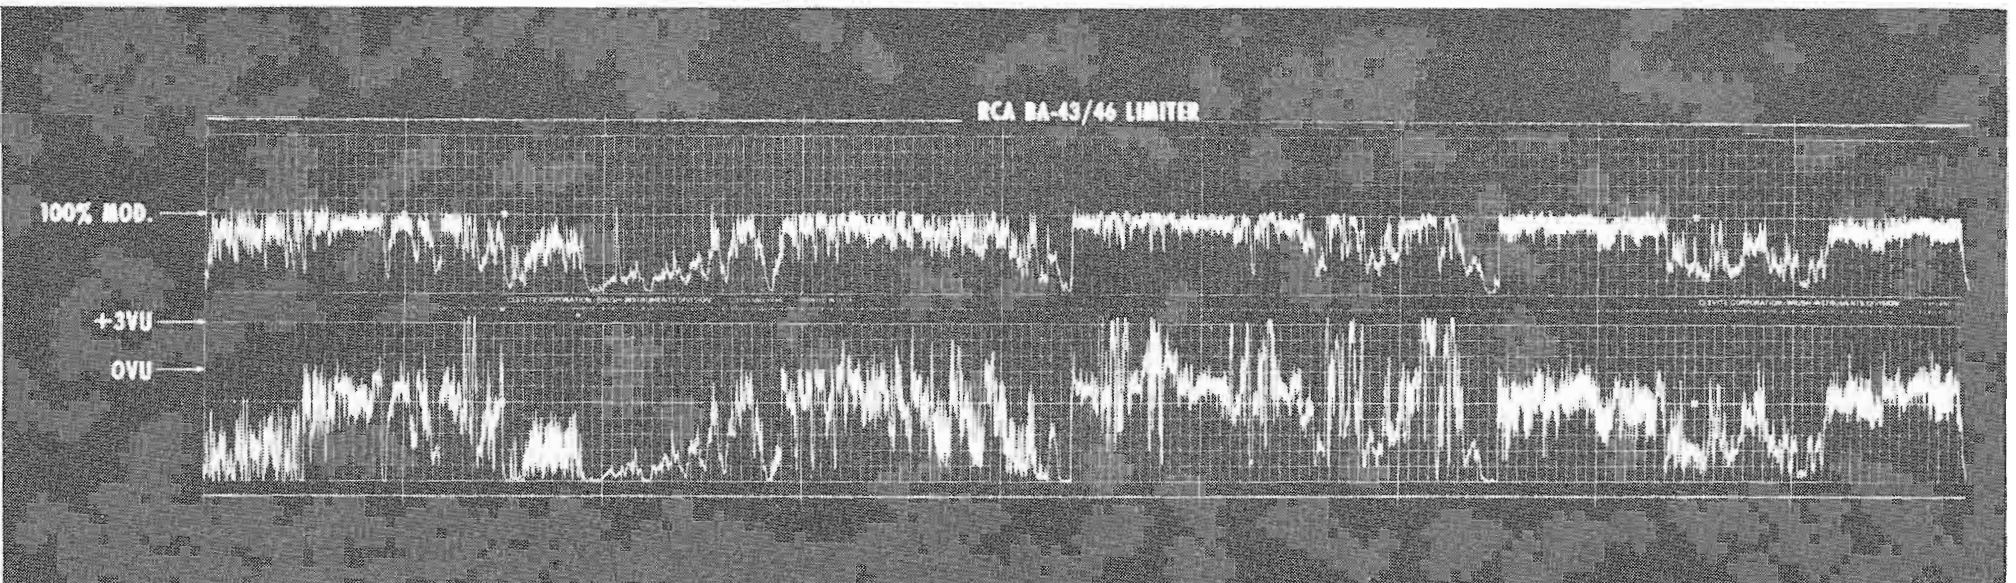

FIG. 11. BA-43/46 Limiter output over input.
The essential action of the BA-43/46 peak limiter is illustrated in Fig. 11. Levels were initially adjusted to occasionally exceed 100 percent modulation and 0 VU. With the addition of a peak limiter, the program level can be increased without fear of overmodulation. In the test, the signal level was raised 10 dB, so that the peaks were being limited by 10 dB on the loud passages. With the use of a peak limiter, three points are noteworthy: (1) Signal peaks do not exceed 100 percent modulation; (2) The low average levels are raised 10 dB, and the high average levels are less affected; (3) Faster gain-recovery time results in a higher average level. As shown in the charts, the limiter maintained a uniform average level in addition to its precise peak limiting at 100 percent modulation. The unit does not clip to accomplish its limiting function.